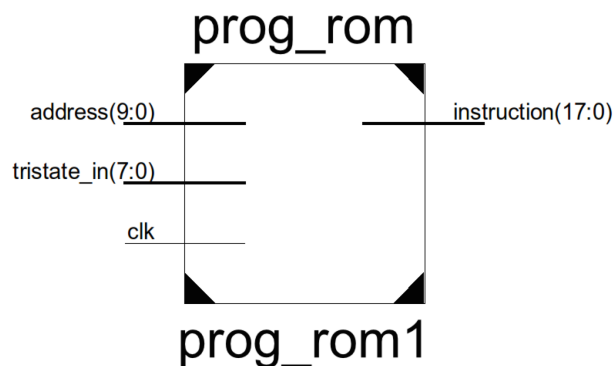

Figure 2: Updated prog\_rom Black Box Diagram
5. Synthesize and generate a bit file for your newly integrated system. That’s it! Figure 2 shows what the updated prog\_rom module should look like. Ratload should work on your CPU now. The next sections cover how to set up the ratload program on your computer.